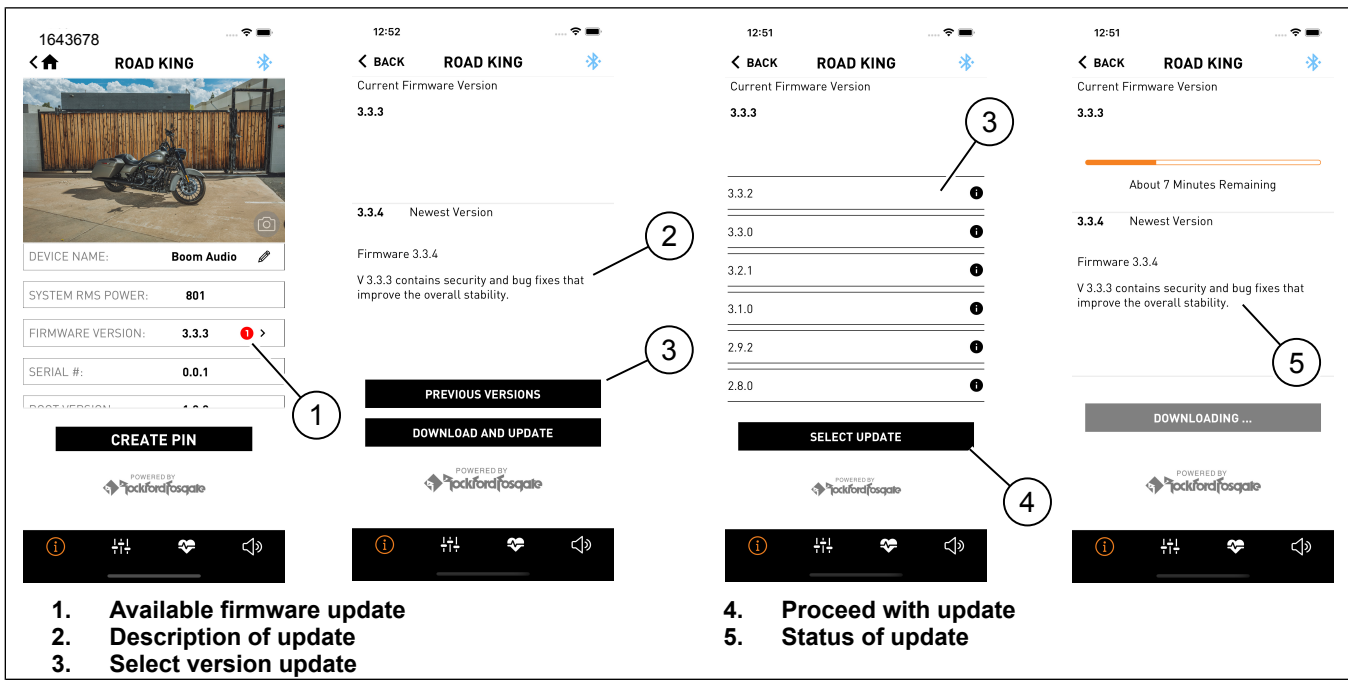

Figure 19.
1. Figure 19 Red circle indicates that there is an available firmware update (1).
2. Short description of update (2).
- b. Press previous version (3) if that version is desired.
3. Select a version update (3) and proceed with update (4).